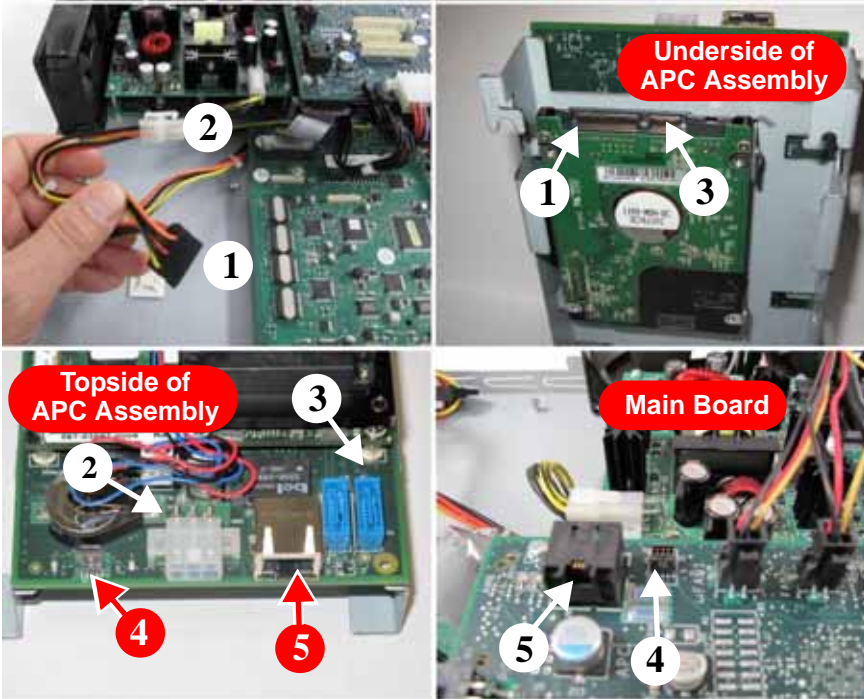

Figure 62: Connect Power and SATA Data Cables
- Before seating the assembly in the chassis, connect the following cables, referring to Figure 62 (page 196) for connector locations. Only some of the connections are made in this step; the remaining are made after the assembly is seated. Note that the SATA and housekeeping cables are keyed for proper connection.
- SATA power cable to the hard disk drive; (1) in Figure 62 (page 196)
- 6-pin power connector to the APC-CX(i); (2) in Figure 62 (page 196)
- SATA data cable from hard disk drive to SATA 0 port on the APC-CX(i) II; (3) in Figure 62 (page 196)
- one end of the housekeeping signal cable to the APC-CX(i) II; (4) in Figure 62.
- one end of the Ethernet cable to the Ethernet jack on the APC-CX(i) II; (5) in Figure 62 (page 196).
8. Complete the remaining cable connections as follows (refer to Figure 62 (page 196) above for connector locations):
- Connect the loose end of the Ethernet cable to the Ethernet jack on the APC-CX(i) II Assembly to the corresponding jack on the main board; (5) in Figure 62 (page 196).
- Connect the loose end of the housekeeping signal cable on the APC-CX(i) II Assembly to the corresponding connector on the main board. The connectors are keyed for proper connection; (4) in Figure 62 (page 196).